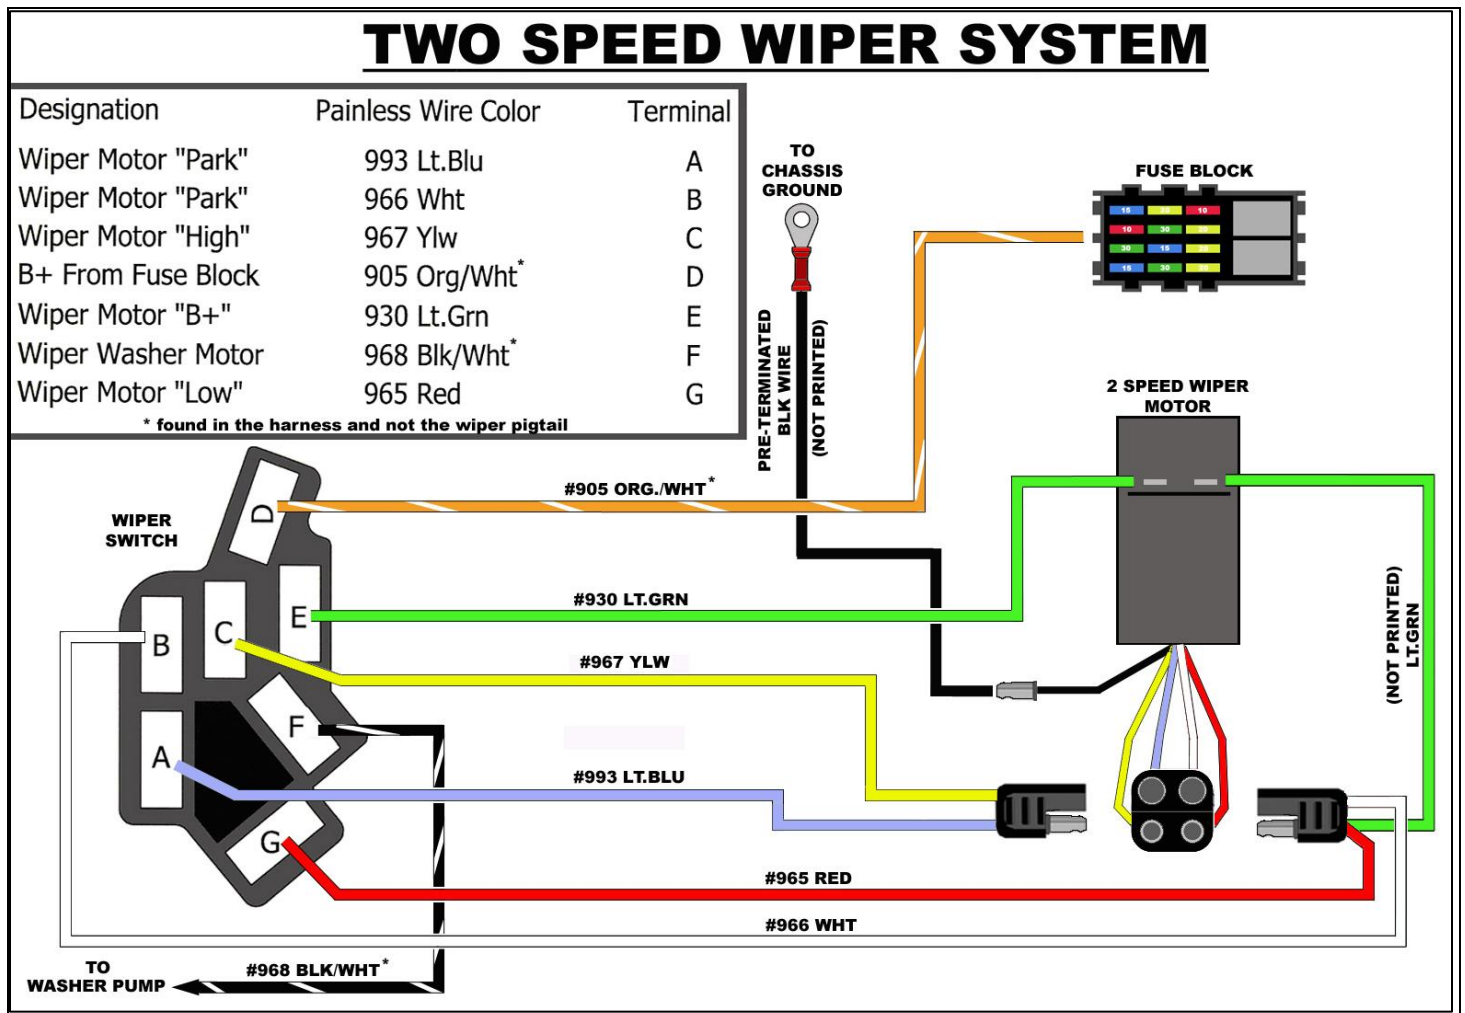

Figure 21 Two Speed Wiper Switch Connections (Wire Side View)
- For Two Speed Wiper Systems, connect the wires of the Wiper switch as indicated in **Figure 21**. These connection will be made using the 2 wires, #905 (org/wht) & #968 (blk/wht), found on the main harness and the Wiper system sub harness included with the kit.